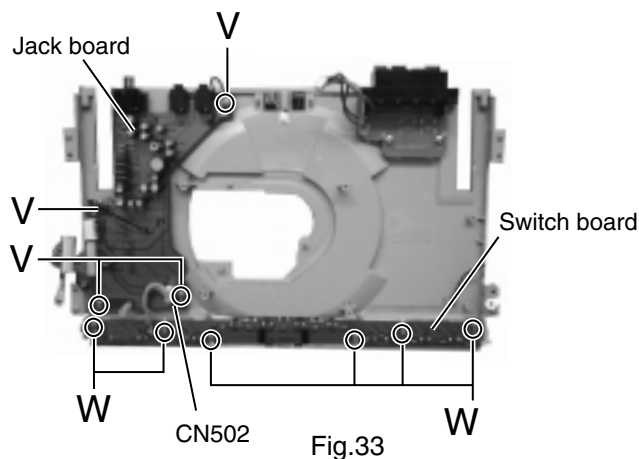

Fig.33
■Removing the jack board (See Fig.33)
■Removing the switch board (See Fig.33)